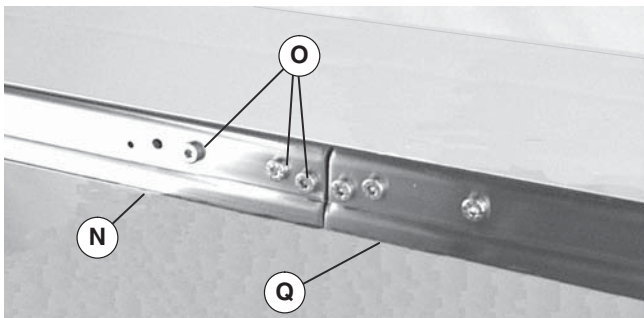

Figure 7
- Join conveyor sections (Figure 7, item N and Q). Install screws (O) through frame and into connector bar (P) on both sides. Tighten screws to 60 in-lb (7 Nm).